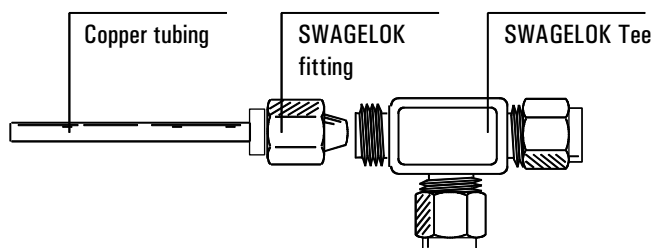

Figure 12. Attaching a SWAGELOK Tee
1. Cut the tubing where you want to install the Tee. Connect the tubing and Tee with a SWAGELOK fitting. See Figure 12.